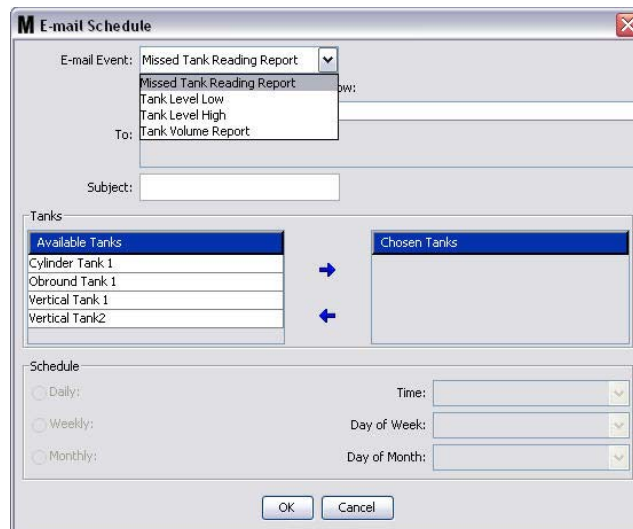

FIG. 158
1. Click the New Schedule button to display the E-mail Schedule setup screen shown in FIG. 158.
2. The E-Mail Schedule screen shown in FIG. 158 on page 115 displays. When you have finished making changes, click OK button to close the screen and save the changes.